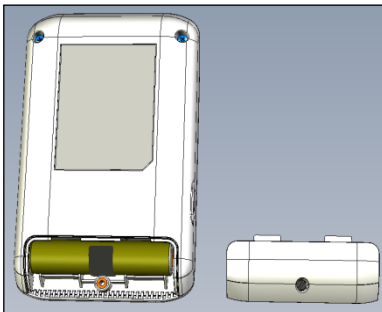
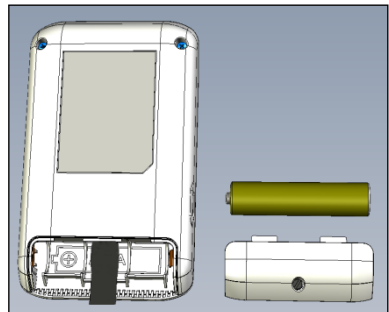

Fig. 1a
Fig. 1b
- 7.2.1. To install/replace the battery, unscrew and remove the battery compartment cover on the back of the device (Fig. 1a). Remove the old battery (if one is present) using the built-in cloth strip; insert the new battery following polarity indications marked inside the battery compartment, (Fig. 1b), replace cover and tighten screw.